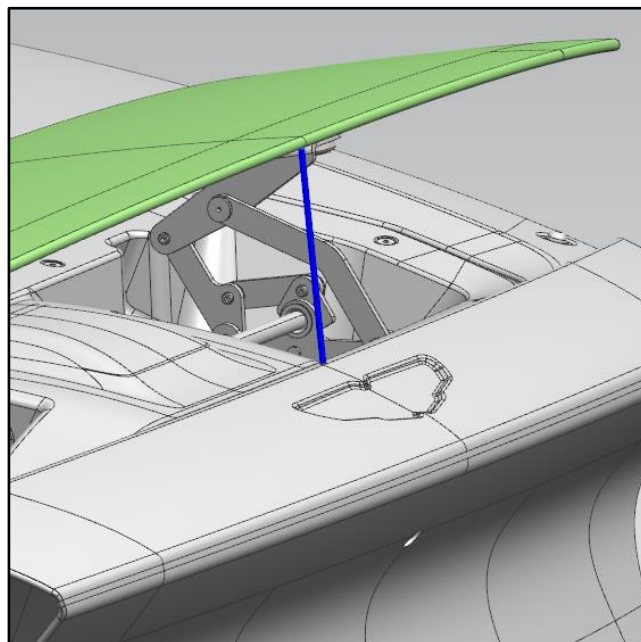
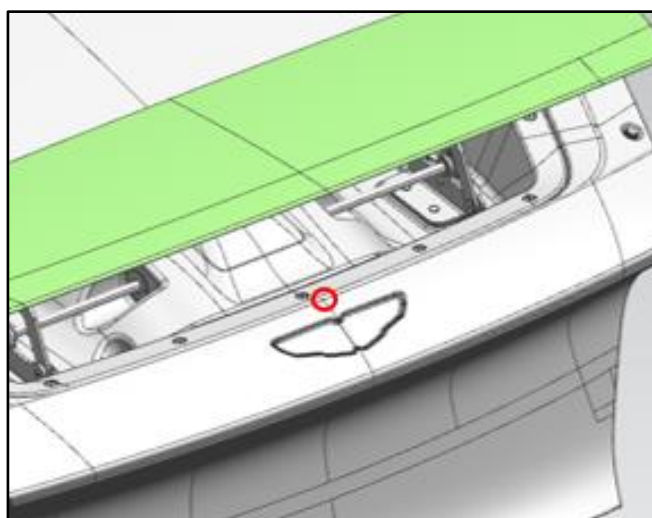
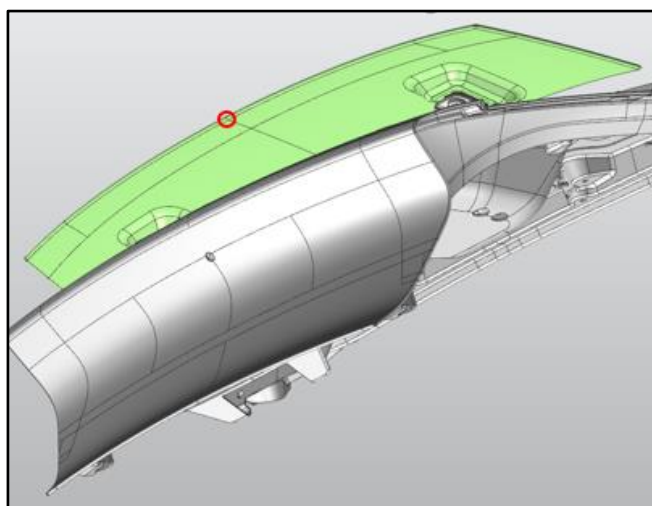

Figure 2
Figure 3
Figure 4
Do this at the vehicle centre line. (Refer to Figure 2, Figure 3 and Figure 4.)
3. Figure 3 shows the point on the boot lid to measure from.
4. Figure 4 shows the point on the bottom surface of the spoiler blade to measure from.